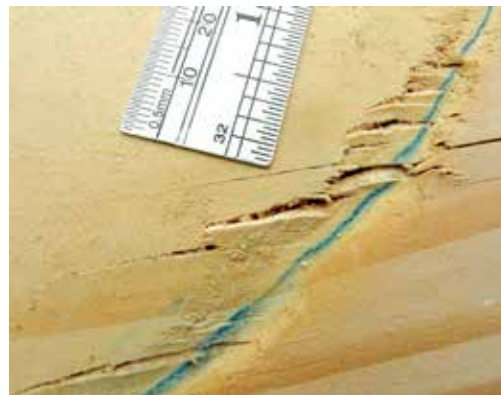

Figure 5.b: Too much underscribe ($\frac{7}{8}$ " (22mm)). The wood of the saddle has crushed and will never rebound. This is an underscribing failure.
Overscribing the groove and underscribing the corner notches are two names for the same thing. The long groove (*lateral*) of the new log is scribed, and then the scribers are closed down a small amount, and the log's corner notches are scribed with a slightly smaller setting. This leaves a little “extra” wood in the notches. The difference between the groove scribe setting and the notch scribe setting is called the *underscribe* (Figure 4, & Figure 5.c, on next page).
As some of the weight is transferred off the corners, the wood of the saddle rebounds, keeping the notches tight. In order for underscribing to work, the corner notches must withstand great weight without crushing. Notch edges must be so strong that the wood of the saddle is compressed (Figure 5.a). **Compressed** wood will rebound, while **crushed** wood is forever crushed (Figure 5.b).
Figure 5.a: A properly compressed saddle. The notch of the log above has compressed the wood of the saddle. This wood will rebound over time, and help keep the notch tightly fitted as the logs dry and shrink.
Figure 5.c: We use 3 scribe settings for each log. Always start by finding the long groove setting (LG), and scribing the groove. Then close down the scriber for the notch (N) setting (underscribe). Finally, open the scriber wider and scribe the flyways (Overhangs —OH).